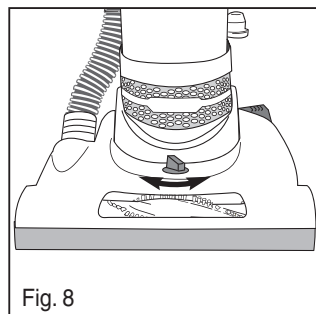

Fig. 8
- 1) Adjust height setting for high, medium, or low carpet (Fig. 8).